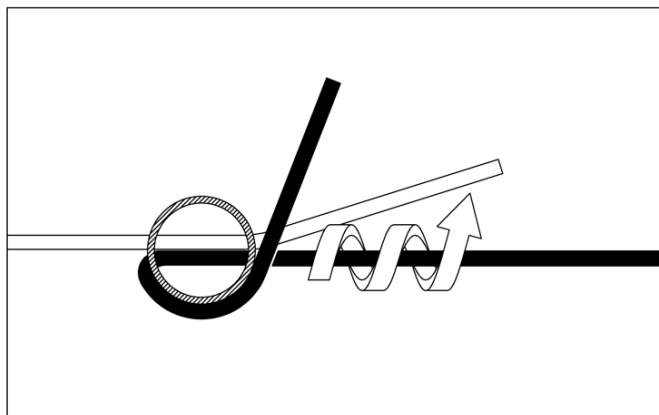

Fig 10. Wrap the first wire around the itself.
3. Terminate the first wire by wrapping it around itself. (Figs 10 and 11).